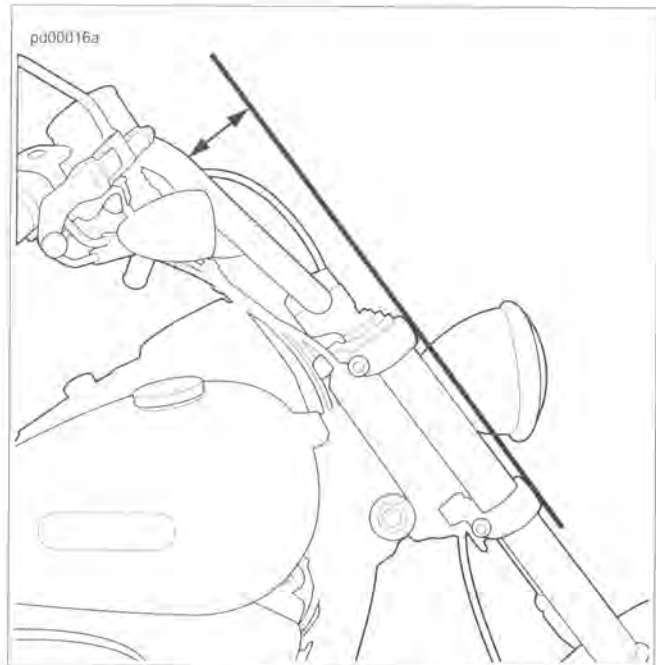

Figure 2-127. Handlebar Adjustment Measurement: FXDB, FXDBC and FXDBP
20. See Figure 2-127. Lay a straightedge against the front of the upper and lower fork brackets. Rotate the handlebar to 3.5 in (89 mm).